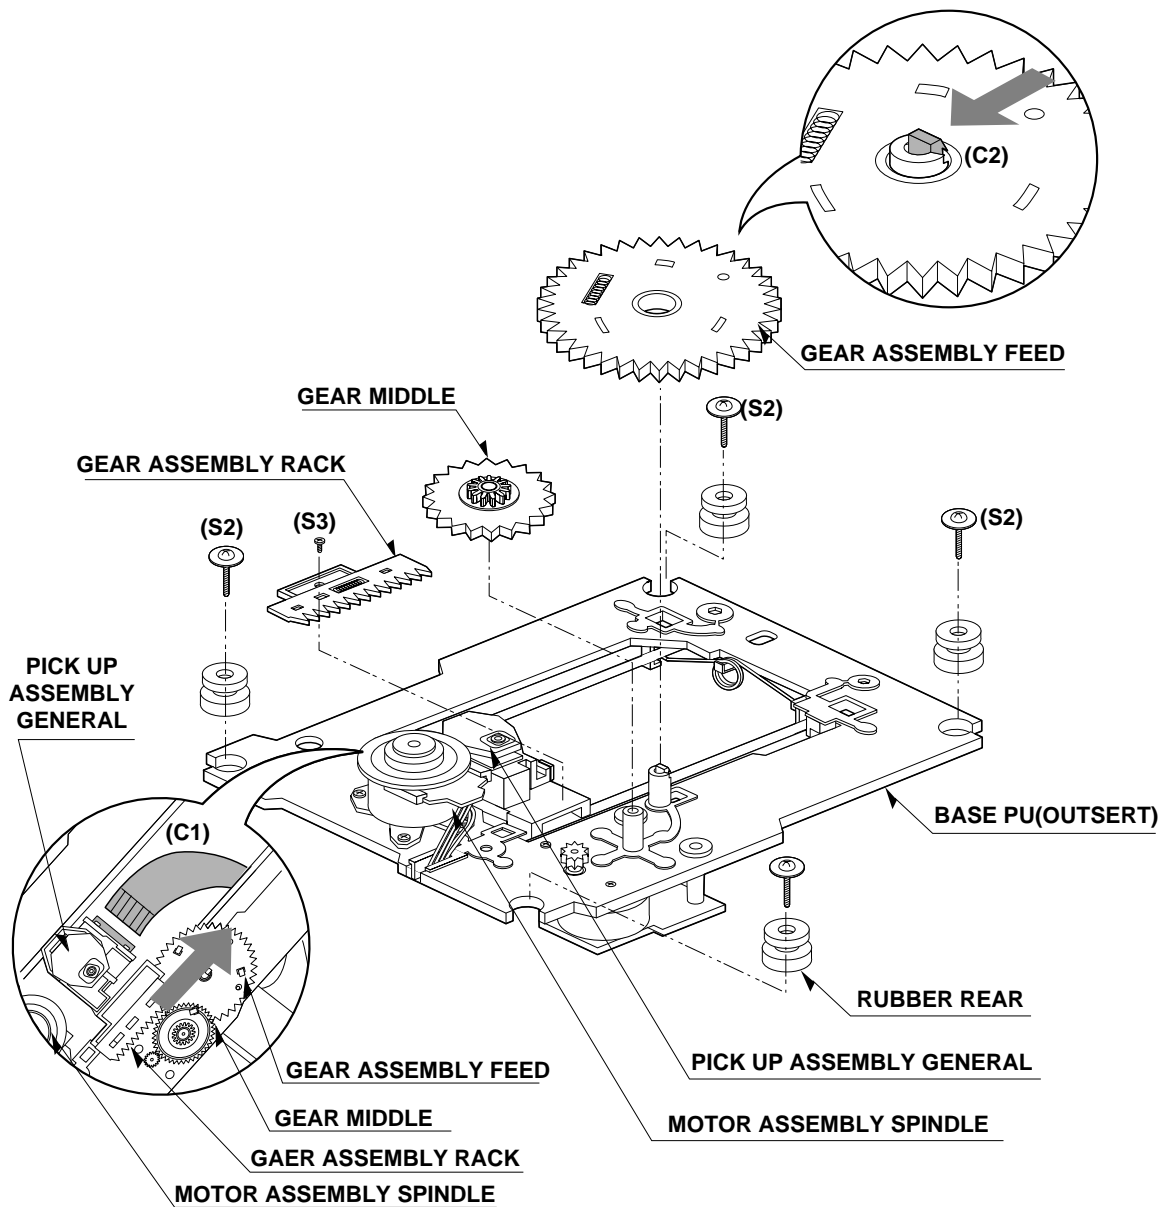

Fig. 5-11-3
3. Base Assembly Sled (Fig. 5-11-3)
4. Rubber Rear (Fig. 5-11-3)